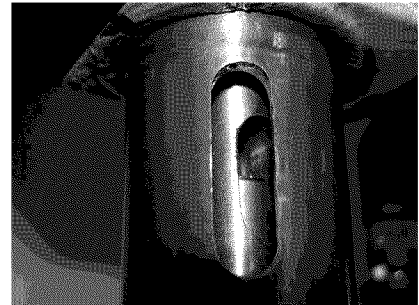

Figure 6A
- Lower the spindle as far as it will go to reveal the spindle slot. **See Fig. 6A**